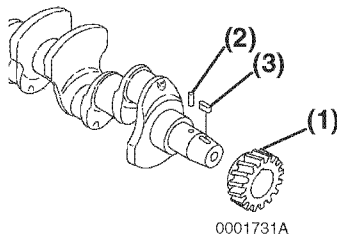

Figure 6-107
- If necessary, remove the crankshaft gear (Figure 6-107, (1)), parallel pin (Figure 6-107, (2)) and key (Figure 6-107, (3)). If using a gear puller, be careful not to damage the threads in the end of the crankshaft.